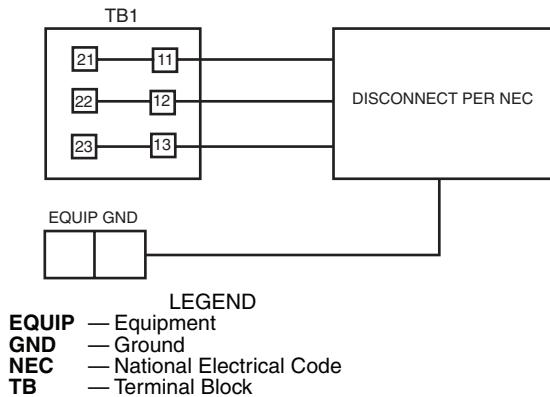

Fig. 42 — Field Power Wiring Connections
Units Without Factory-Installed Disconnect — When installing units, provide a disconnect per NEC (National Electrical Code) of adequate size (MOPC [Maximum Overcurrent Protection] of unit is on the informative plate). All field wiring must comply with NEC and all local codes. Size wire based on MCA (Minimum Circuit Amps) on the unit informative plate. See Fig. 42 for power wiring connections to the unit power terminal block and equipment ground. Maximum wire size is two (2) 500 MCM (thousand circular mils) conductors per pole.